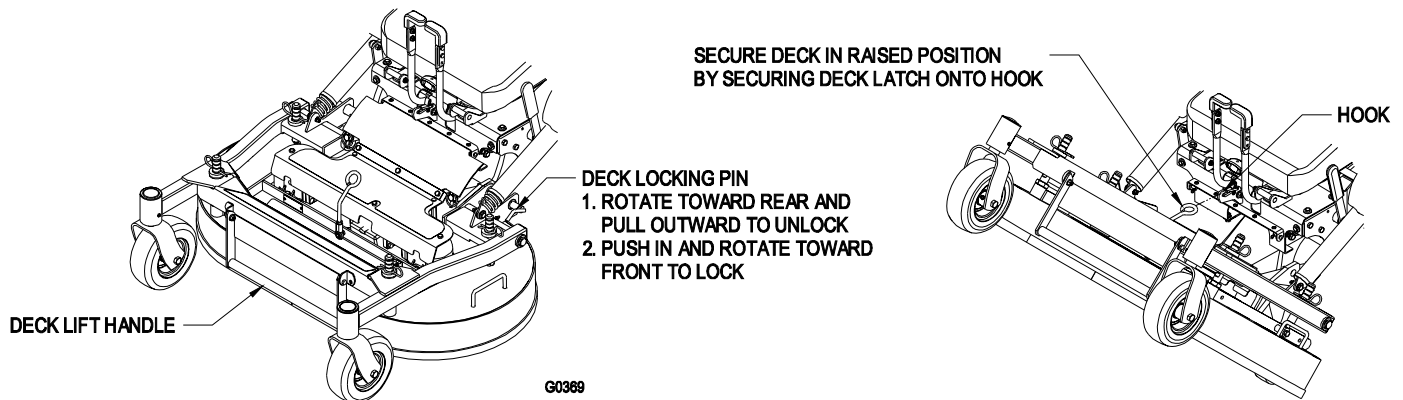

FIGURE 5
- b) Release the deck locking pins on each side. See Figure 5.
- c) Using deck lift handle, lift deck up and latch in “up” position (latch is located at front center of seat). See Figure 5.
- Push deck locking pins inward and rotate forward to securely lock deck in lowered position. See Figure 5.